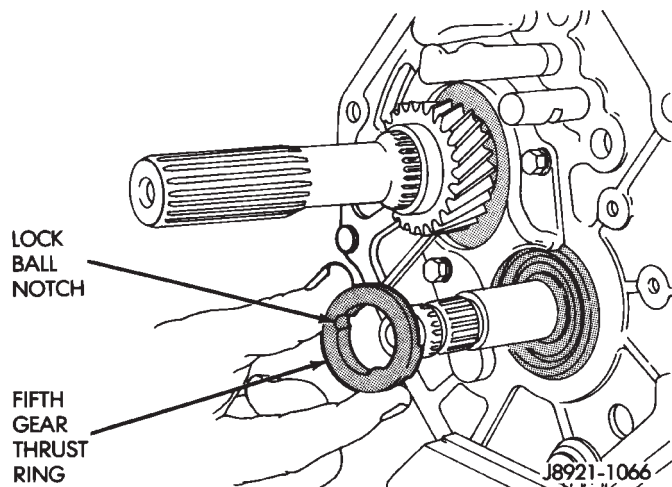

Fig. 59 Remove Fifth Gear Thrust Ring
(11) Remove fifth gear thrust ring from countershaft (Fig. 59).